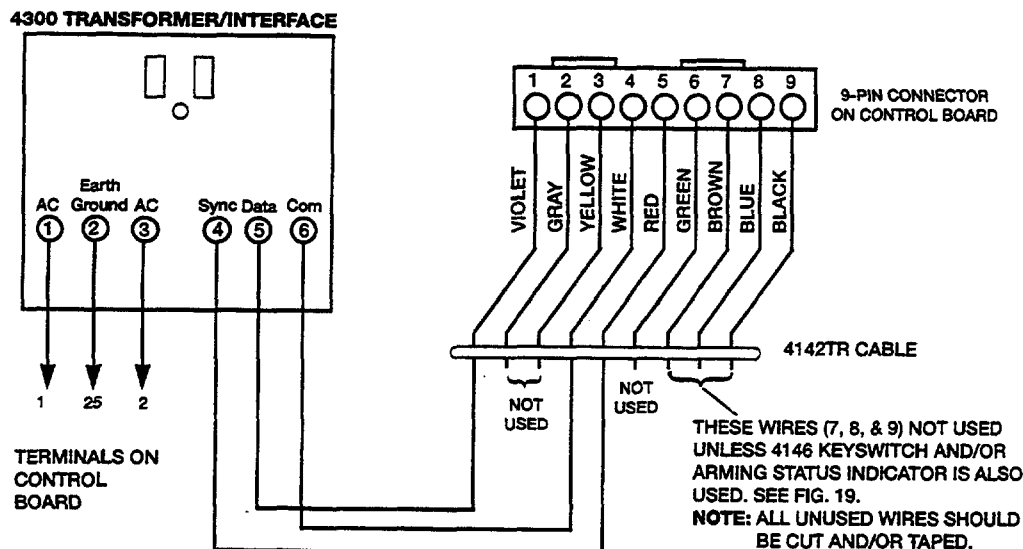

Figure 5. Connections of 4300 Transformer To The Control Board
- a. Terminals 1, 3 (AC), and 2 (Ground) to control board terminals 1, 2, and 25, respectively (see Figure 5). See table below for wire gauge to use.
- b. Wire the other three terminals (Sync, Data, Com) on the 4300 transformer. Wires from these terminals must be connected to a 9-pin connector on the control board (using a 4142TR cable supplied with the 4300 transformer), as shown in Figure 5. These particular wires can be 24 gauge or larger, and can be run along with the AC and ground wires to the control panel.